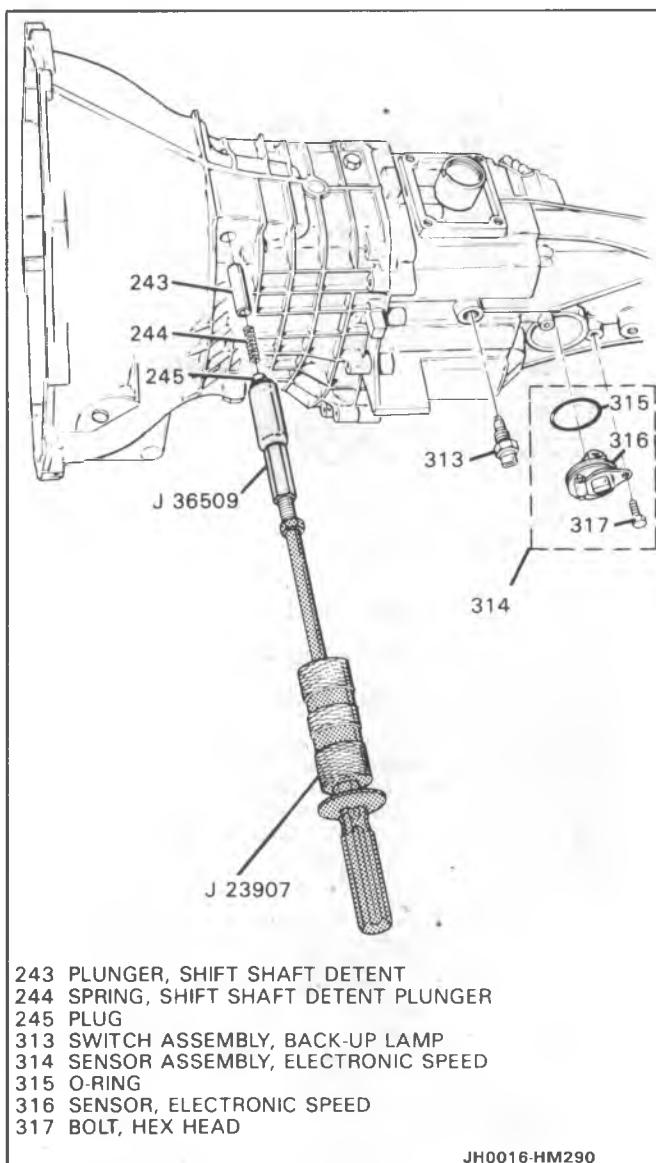

Figure 5 Removing External Components
- 2. Backup lamp switch assembly (313) (Figure 5).